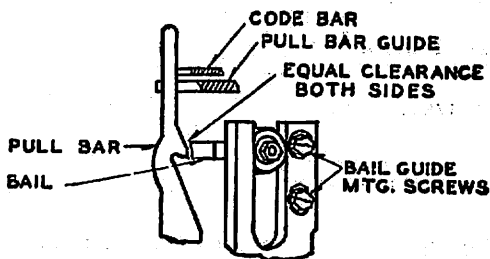

Fig. 17
(b) To adjust, restore spring and so position the pullbar guide that its mounting screws are in the middle of the elongated slots, then loosen the mounting screw of both main bail roller guides. (1) With the blank combination set up and the main bail opposite the unselected pullbar humps as in Fig. 17, shift the right roller guide to obtain the same clearance between the main bail and the "letters" and "figures" pullbar humps. Tighten the right roller guide top mounting screw friction tight. (2) With the main bail